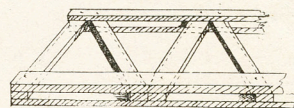

Fig. 5—Example of sandwich type of girder work
The second method is that of sandwiching the diagonal girders (cut to a slightly greater length) between duplicated top and bottom girders, as depicted in Fig. 5. It will be seen that fine panel-pins may be used to produce a much stronger finished assembly.
The film spool holder, Fig. 5 (J) is cut to the shape and size given. In the small hole shown drive a $1\frac{1}{2}$ in. brass screw partly in. Saw the head off, leaving the shank to act as a pin on which the spool can work. The wooden spool on which the film is wound, works quite well and there is really no need to purchase a special metal one.